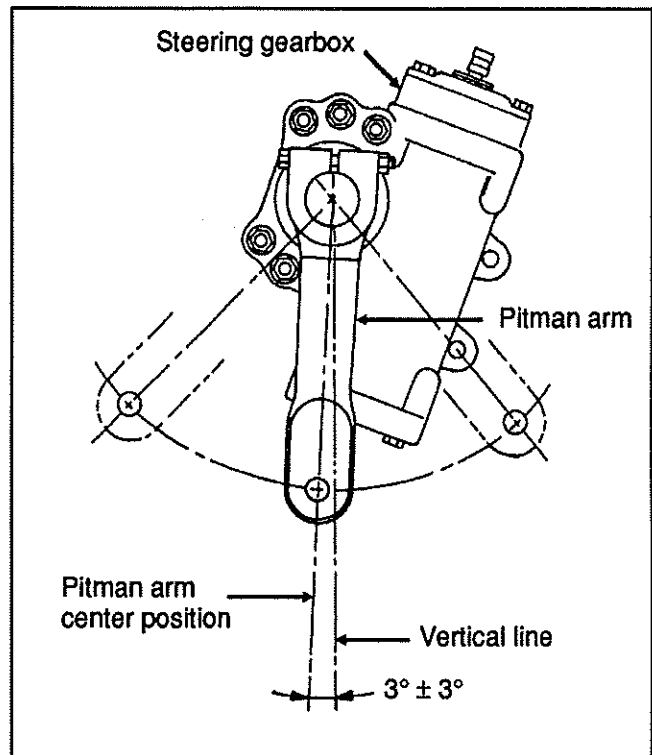

Fig. 5 - Pitman arm adjustment
2. Using a protractor, check the angle of the pitman arm (refer to fig. 5 for details).